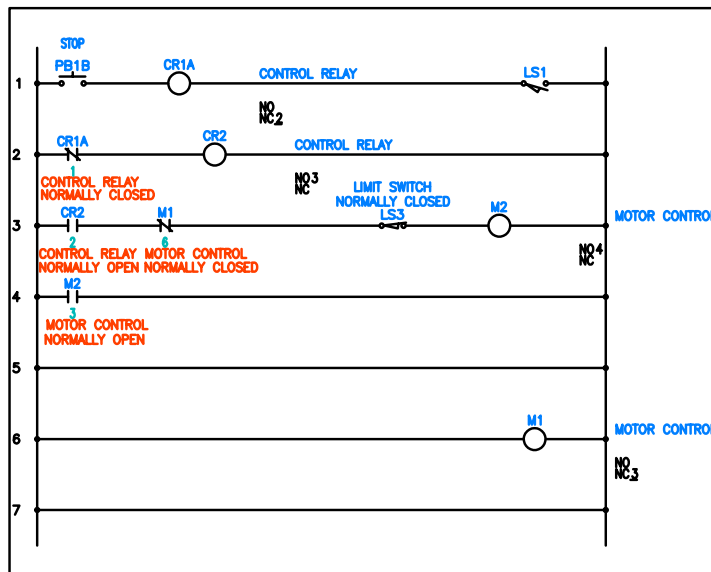

Figure 6-47 Components inserted in the ladder
34. Enter **18,18** at the Command prompt and press ENTER; the **Insert / Edit Component** dialog box is displayed. By default, LS1A is displayed in the edit box of the **Component Tag** area in this dialog box. Next, choose the **OK** button; LS1A is inserted into rung 1 of drawing. Figure 6-47 shows the ladder with components inserted in it.
36. Specify the base point at the left corner of the attribute and move the attribute, as shown in Figure 6-47.